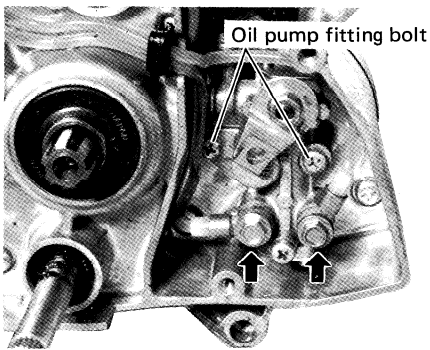

Fig. 5-4-7
8. After loosening 2 oil pump fitting screws with a cross head screw driver, take out the oil pump and then loosen 2 union bolts with a 8 mm wrench to disconnect the oil inlet and outlet lines from the oil pump. (Fig. 5-4-7)